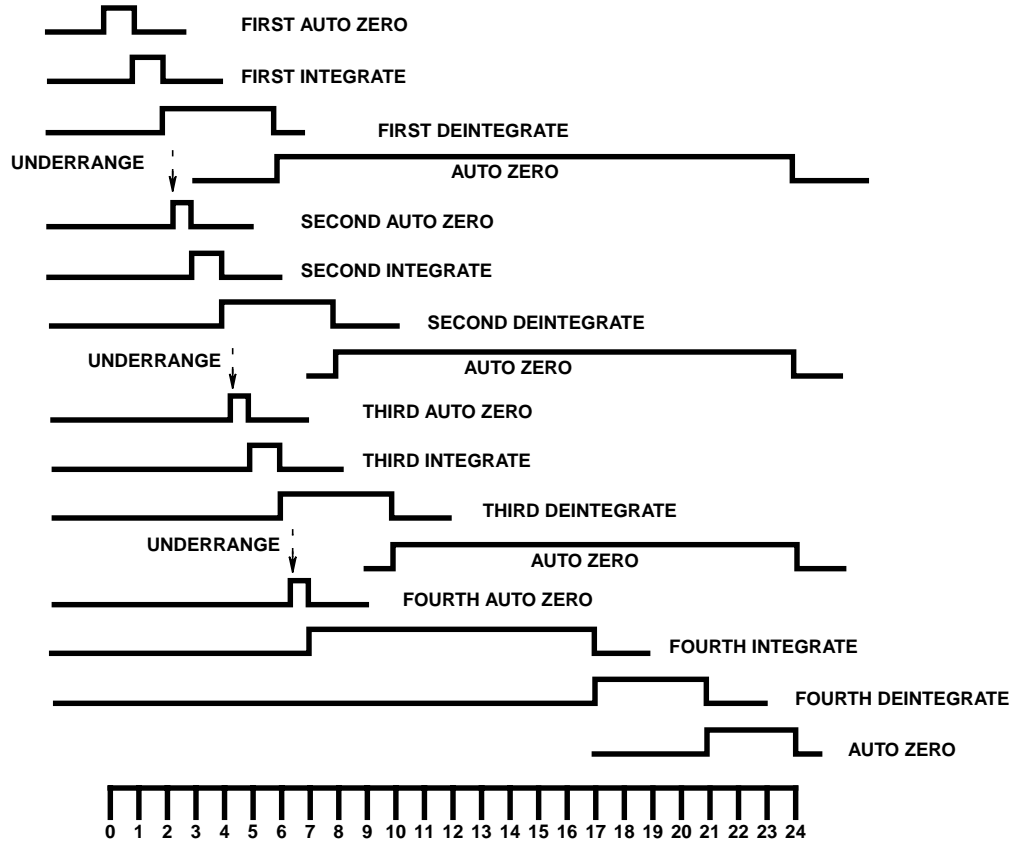
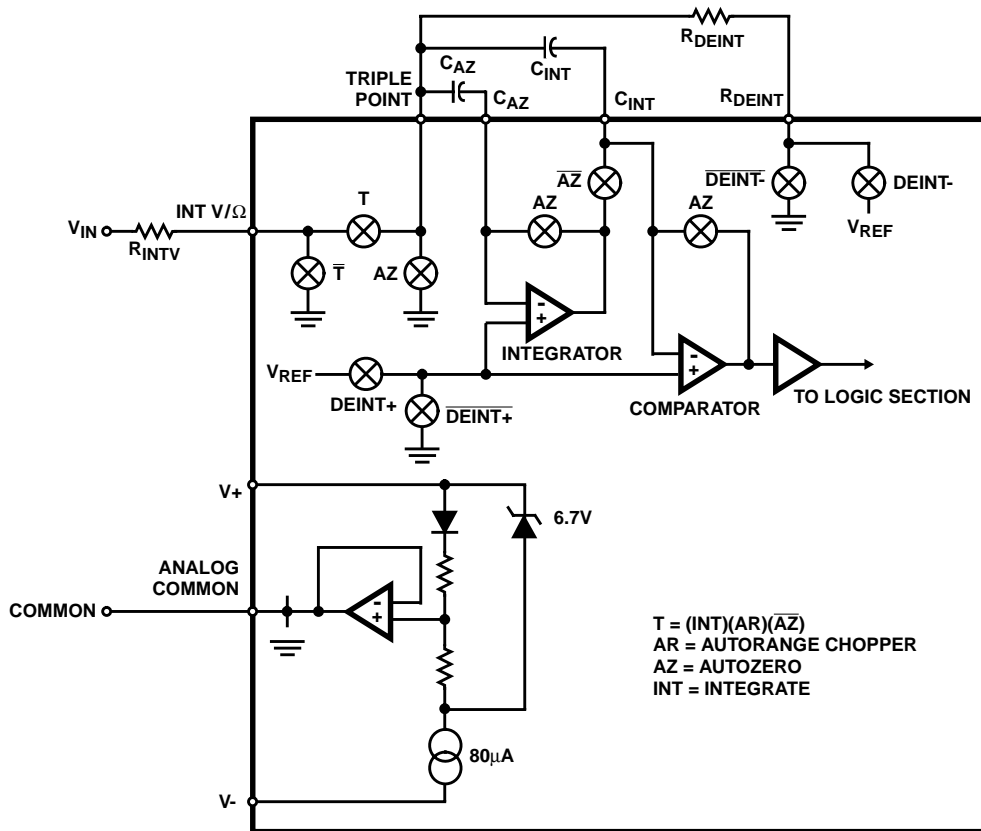

FIGURE 1. LINE FREQUENCY CYCLES (1 CYCLE = 1000 INTERNAL CLOCK PULSES = 2000 OSCILLATION CYCLES)
FIGURE 3. DETAILED CIRCUIT DIAGRAM FOR DC VOLTAGE MEASUREMENT
## Electrical Specifications V+ = 9V, TA = 25°C, VREF adjusted for -3.700 reading on DC volts, test circuit as shown in Figure 3. Crystal = 120kHz. (See Figure 14)
Only those portions of the analog section which are used during DC voltage measurements are shown in Figure 3. As shown in the timing diagram (Figure 1), each measurement starts with an autozero (AZ) phase. During this phase, the integrator and comparator are configured as unity gain buffers and their non-inverting inputs are connected to Common. The output of the integrator, which is equal to its offset, is stored on CAZ - the autozero capacitor. Similarly, the offset of the comparator is stored in CINT. The autozero cycle equals 1000 clock cycles which is one 60Hz line cycle with a 120kHz oscillator, or one 50Hz line cycle with a 100kHz oscillator.